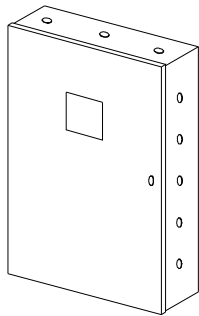

Figure 8: Enclosure
2. Create a 4 1/2 x 4 1/2 in. (113 x 133 mm) opening in the enclosure cover, if necessary (Figure 8).